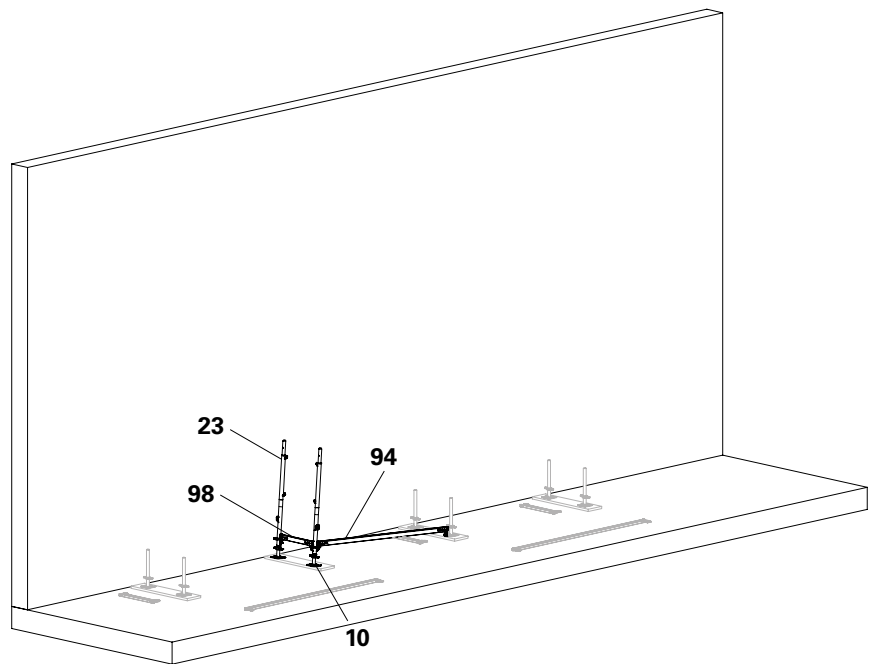

Fig. B2.02
1. 2 x Easy Base Standard EVS 124 (**23**) and Fit 1 x Horizontal Ledger UH-2 67 (**98**) onto a base unit. (Fig. B2.02)
2. Secure with Horizontal Ledger UH-2 (**94**) to prevent it from falling over. (Fig. B2.02)